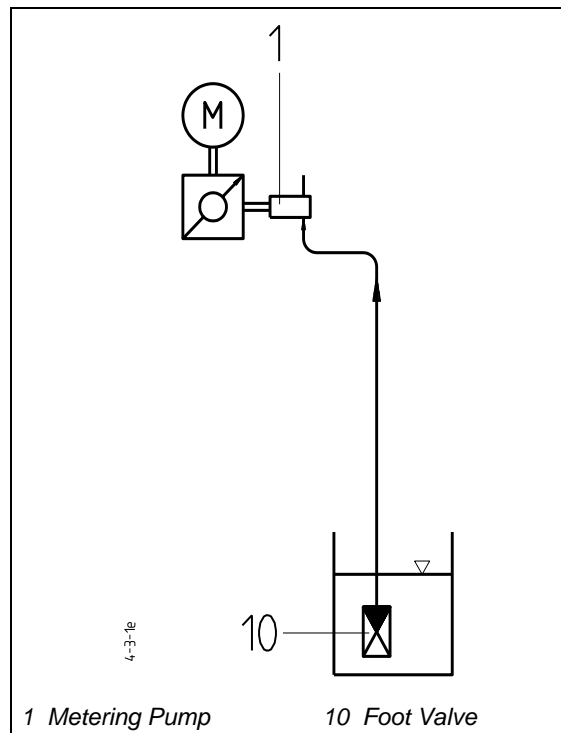

Fig. 4.5: Foot Valve
**Installation of a Foot Valve (Fig. 4.5)**